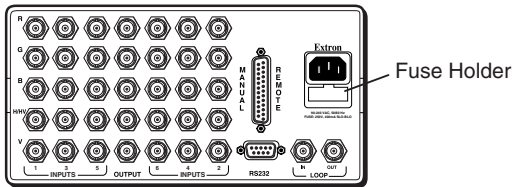

Figure 33 — Opening the fuse holder
- 2. Insert a small screwdriver blade into the slot provided at the top of the fuse holder, and pry the holder open (figure 33).